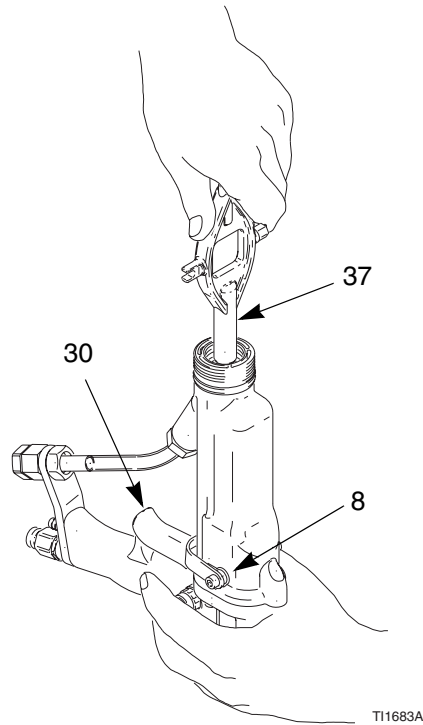

Fig. 26. Fluid Packing Removal
4. Loosen the trigger screws (8) and trigger (30). See FIG. 26..
5. Remove the packing rod (26), using the multi-tool (37).